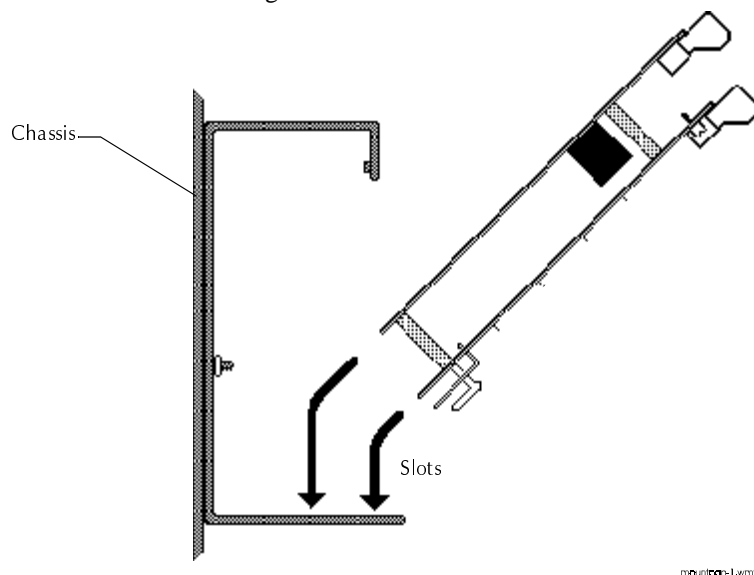

Figure 2-23 Inserting a Module to a CHS-4 Chassis
1. Angle the module into the chassis so that the upper board edge slips into the chassis slots as shown in Figure 2-23: